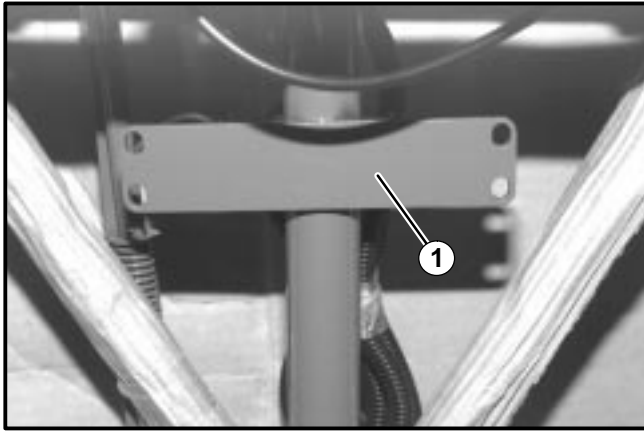

FIGURE 17
29. Insert the two (2) 15 1/2" (394 mm) cable ties through the holes in the literature mounting plate (See Fig. 17). Secure literature tube using the cable ties.